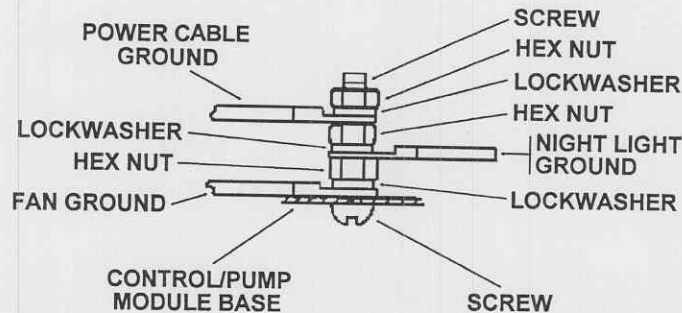

Figure 3-7. Electrical ground connections.
The green, electrical ground wire is fastened to the central ground point of the control/pump module. Remove the nut and lockwasher (fig 3-7).
- (8) Remove the fan assembly ground wire from electrical ground terminal as illustrated in figure 3-7.